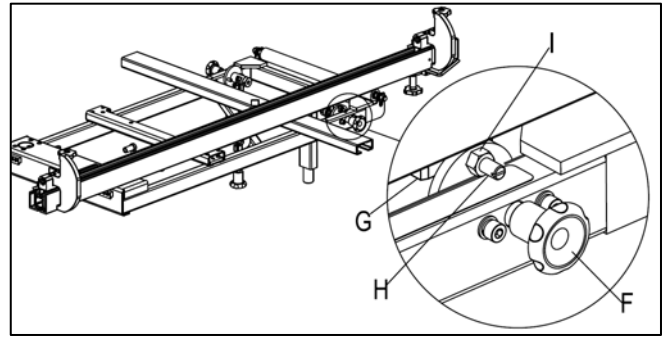

Fig.19-2
d, knobs (F) can be used to quick lock the fence for 90 degree, see **Fig.19-2**.